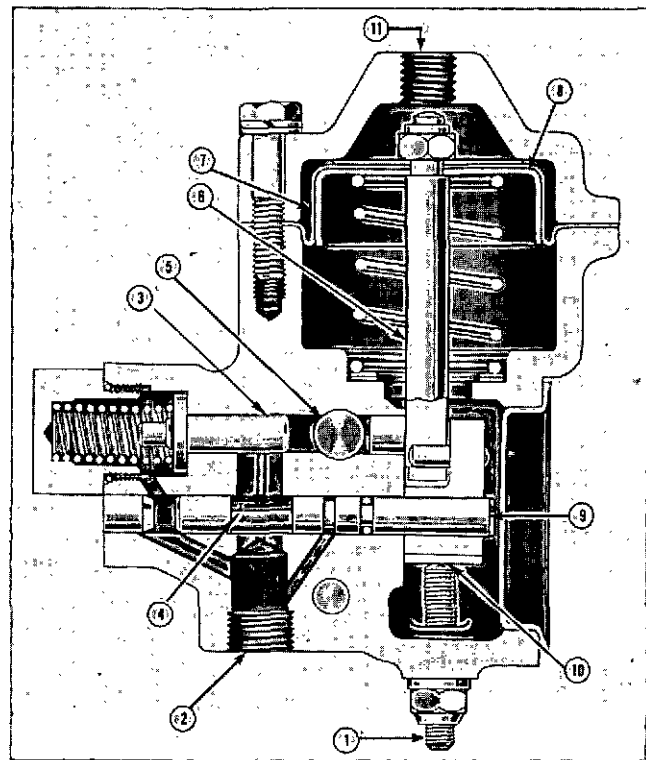

Fig. 10-3-2, N11023. Aneroid control — cross section
Fuel from the outlet side of the fuel pump governor barrel on PT (type G) fuel pumps or inlet side of PT (type R) (pressure regulator type) fuel pumps enters aneroid check valve area (5, Fig. 10-3-2). The check valve (3) prevents aneroid from by-passing fuel at engine cranking speeds. For speeds above cranking, fuel pressure forces check valve open, allowing fuel to flow to valve port (4) of shaft (9).